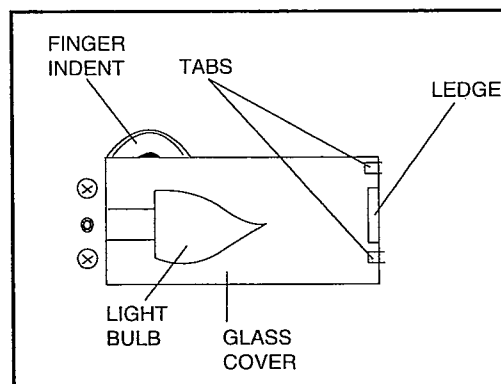

Figure 14
4. Carefully push Glass Cover all the way toward the right (away from screws). Place your index finger into Finger Indent and carefully lift Glass Cover out. See Figure 14.
7. Replace Glass Cover. Be sure Glass Cover fits between the ledge and the two small tabs as shown in Figure 14.